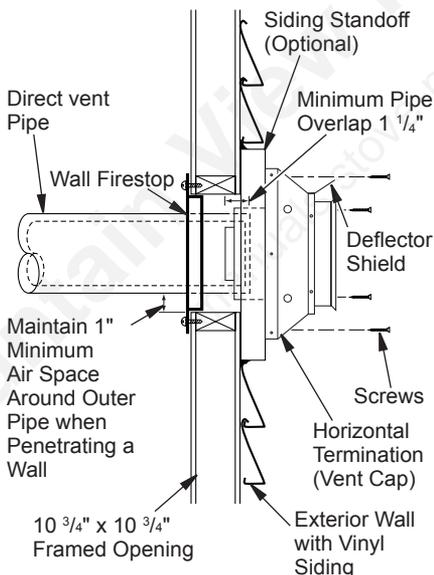

Figure 7 - Vent Termination (Horizontal)
4. Allow 1" of pipe to protrude from internal wall, depending on wall thickness. See Figure 7, page 10.
5. **For horizontal installation**, an optional siding standoff may be installed between vent cap and exterior wall. Secure horizontal vent cap to standoff. Secure standoff/vent cap assembly to wall (see Figure 7). Do not seal termination to vent pipe. Vent termination must be removable for service pipe inspection.